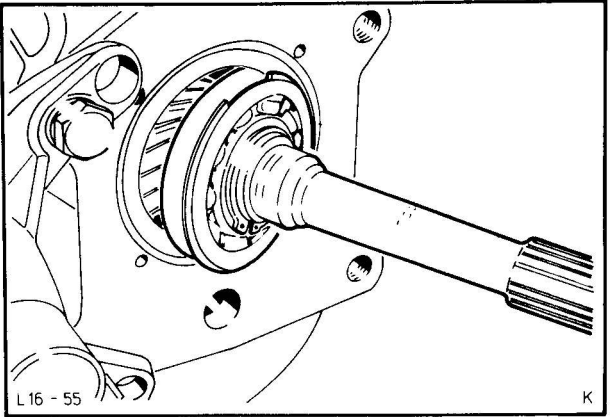

Fig. 54. Slide input shaft into casing
46. Slide input shaft with ball bearing into gearbox casing until the circlip on the outside rests against the casing, Fig. 54.